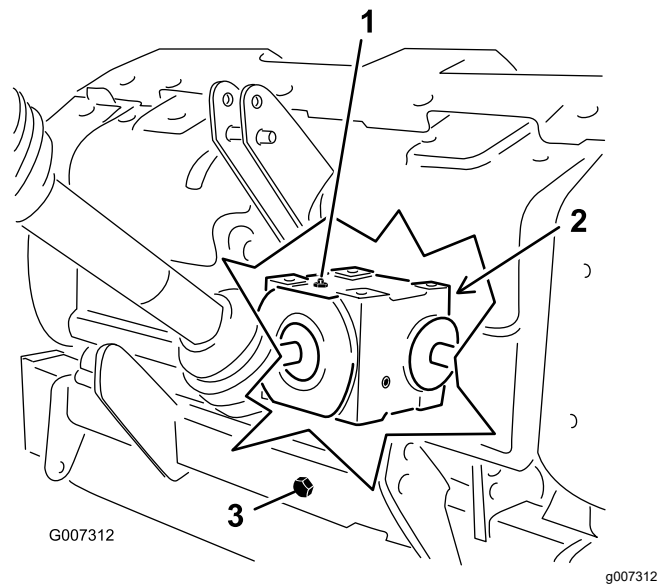

Figure 30
3. Make sure that the oil level is up to the bottom of the check plug hole in gearbox (Figure 30).
2. Remove the check plug from the gearbox (Figure 30).
1. Clean debris from the fill plug and the drain cap to avoid contamination (Figure 30).